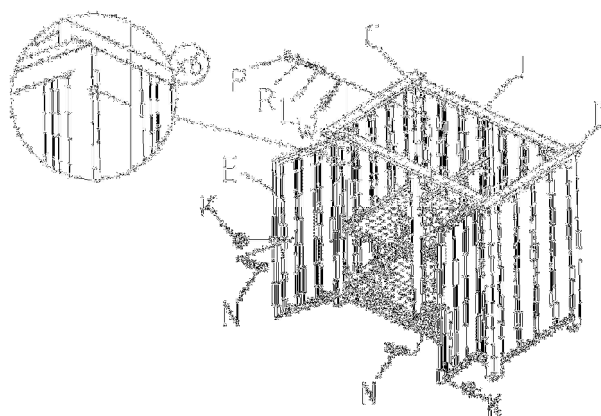

Figure 4
4. Assemble the door frame (E), left side (C), right side (D) and the divider (F) together with 6 bolts $\frac{1}{4}$ in x 30 mm (L), 6 flat washers (P) and 6 spring washers (R) by using the Allen wrench (W); attach the knob (K) to the door (E) with screw #4 x 30 mm (N) (see Figure 4).